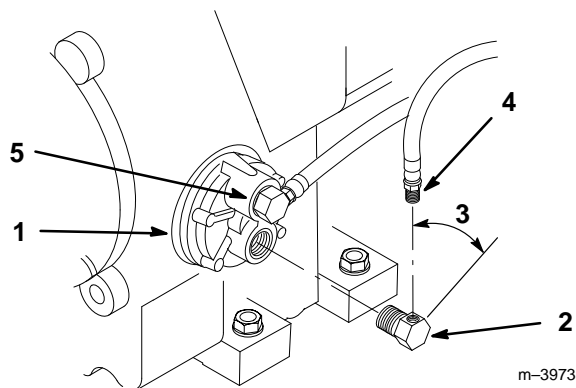
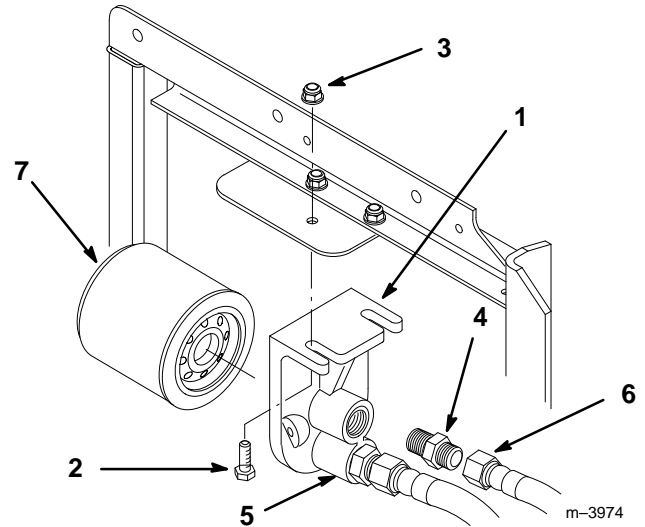

Figure 2
Figure 4
2. Torque fittings to 90–130 in. lbs. (10–15 N•m) ending between 12 and 3 o'clock as shown (Fig. 2).
3. Thread fixed hose ends into 1/2" NPTF fitting (Fig. 2).
4. Secure remote filter adapter to filter plate with (2) 5/16-18 x 1" (26 mm) bolts and (2) 5/16-18 flange locknuts (Fig. 4).
5. Thread (2) 1/4" NPTF fittings into remote filter adapter.
7. Select oil hose from filter adapter "OUT" port (Fig. 2). Thread oil hose swivel end onto 1/4" NPTF fitting of remote oil filter mount port "A" (Fig. 4).
8. Thread remaining oil hose onto other fitting (Fig. 4).
11. Apply a thin coat of oil to filter rubber seal and thread oil filter onto remote filter adapter until it is snug, then turn an additional 1/2 turn (Fig. 4).